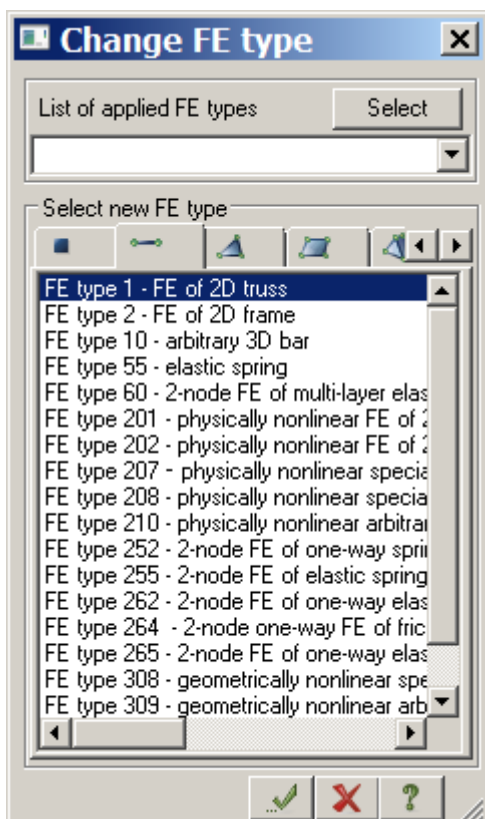

Figure 3.16 **Change FE type** dialog box
- ⇒ In the **Change FE type** dialog box (see Fig.3.16), in the list of FE types, select **FE type 1 - FE of 2D truss**.